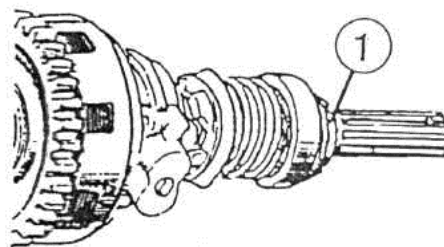

Figure 5.13
- a) torque nut (1) (figure 5.13) using torque wrench to 80...100 N•m. (8...10 kgf m) and unstake it in shaft grooves;